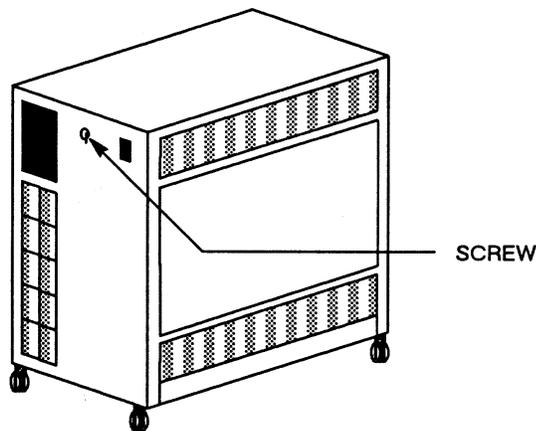

Figure 2-9. Model 32 CADDStation Deskside Module, Front View
1. Loosen the screw that holds the front cover (see Figure 2-9).
Figures 2-9 and 2-10 show front and rear views of the Model 32 CADDStation Deskside Module.